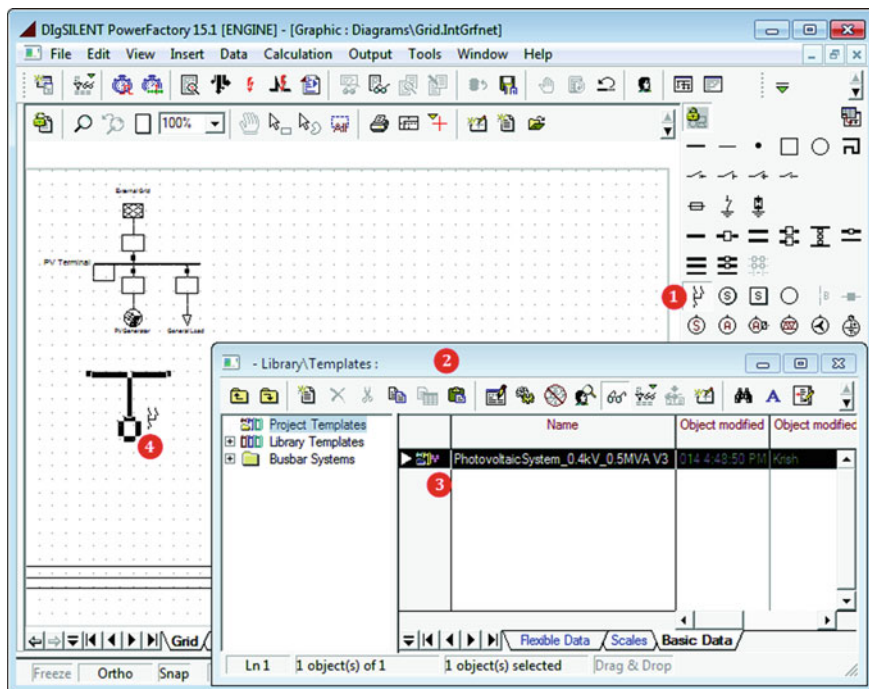

Fig. 16.3 Using template to create the demonstration system
3. Click on the “General Templates” button from the drawings toolbar to the right of the graphics board (see ❶ in Fig. 16.3)
4. Click “General Templates” to open a window that will display all templates in the <Project> → Library → Templates folder and other templates built into PowerFactory (see ❷ in Fig. 16.3)
5. Click to choose the template of your choice (“PVSystem_0.4kV_0.5MVA V3” in our case) and click twice on the desired location of the graphic board to get your own copy of the system (see ❹ in Fig. 16.3).³